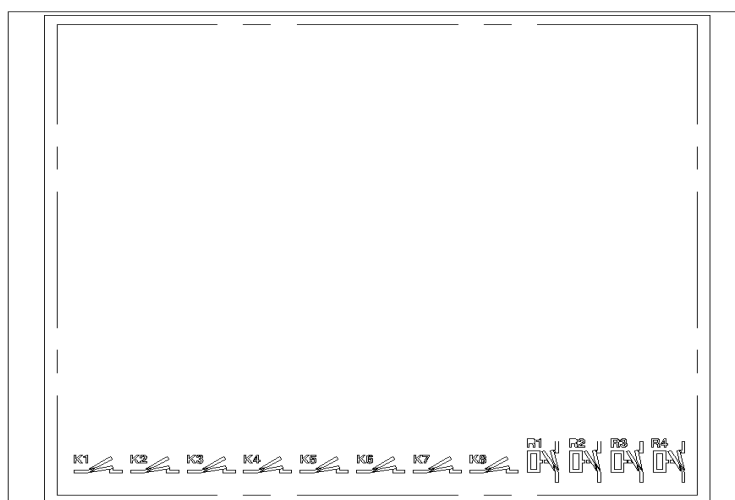

Fig. 98
2. When the remote signal module A is installed, 8 channels remote signal status is shown on the meter as in Fig. 98.
3. When the relay output module B is installed, the meter is displayed as shown in Fig. 98.